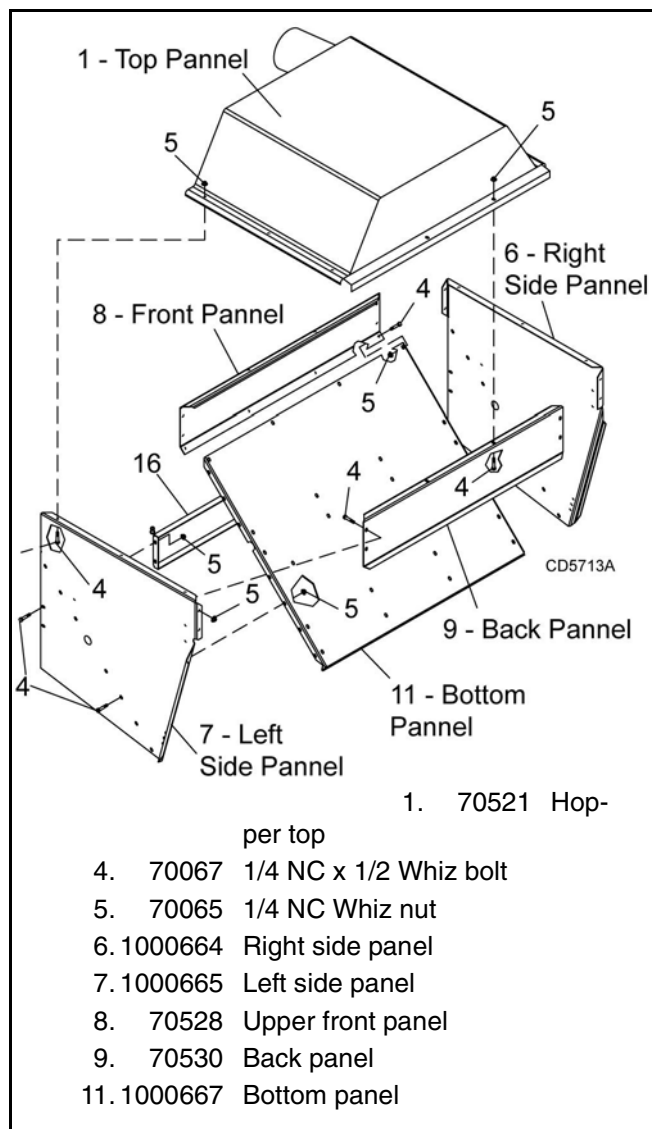
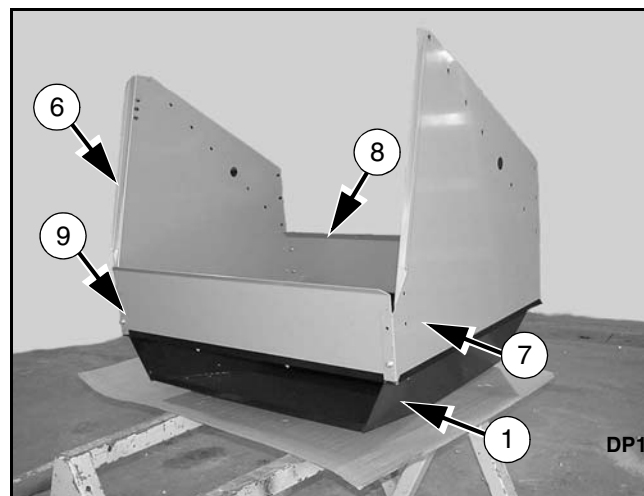

Figure 1. Hopper Assembly
Figure 2. Assemble Hopper Upside Down
Assembly of hopper will be easier if assembled upside down on a flat surface, see Figure 2. Note that Figure 1 shows hopper in the upright position.
1. Lay top section upside down on a flat surface, using Figure 1 as a guide for assembly.
2. Attach side panels (6, 7), upper front panel (8) and back panel (9) to hopper top (1). Make sure side panel corners are outside the front and back panels as shown in Figure 2.
3. Fasten bottom panel (11) to the side panels and to the outside of the front panel (Figure 1).